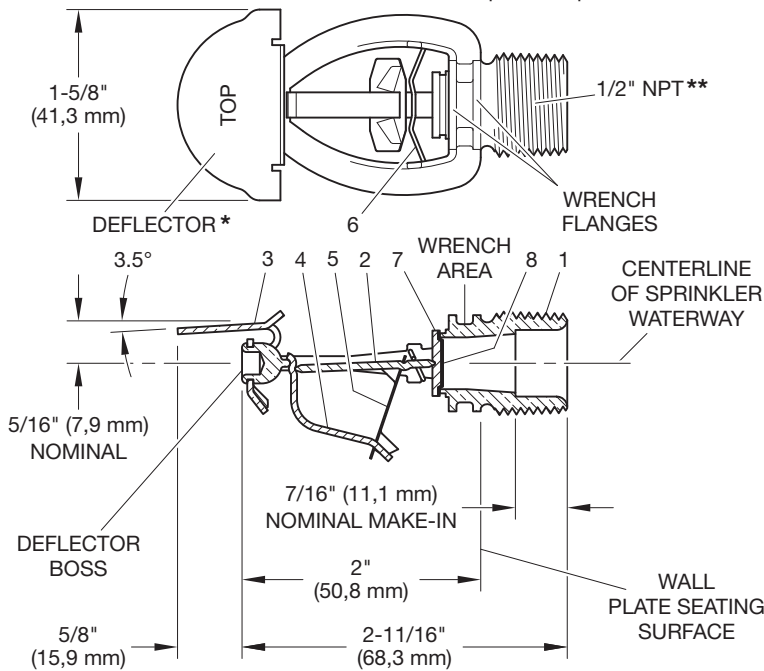
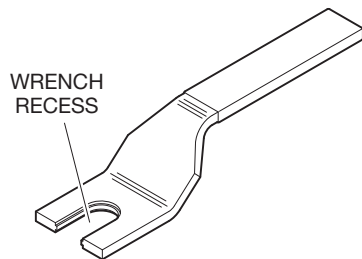

FIGURE 1
FIGURE 2
Step 2. Tighten the sprinkler into the sprinkler fitting using only the W-Type 9 Sprinkler Wrench (Ref. Figure 2). With reference to Figure 1, the W-Type 9 Sprinkler Wrench is to be applied to the wrench area.